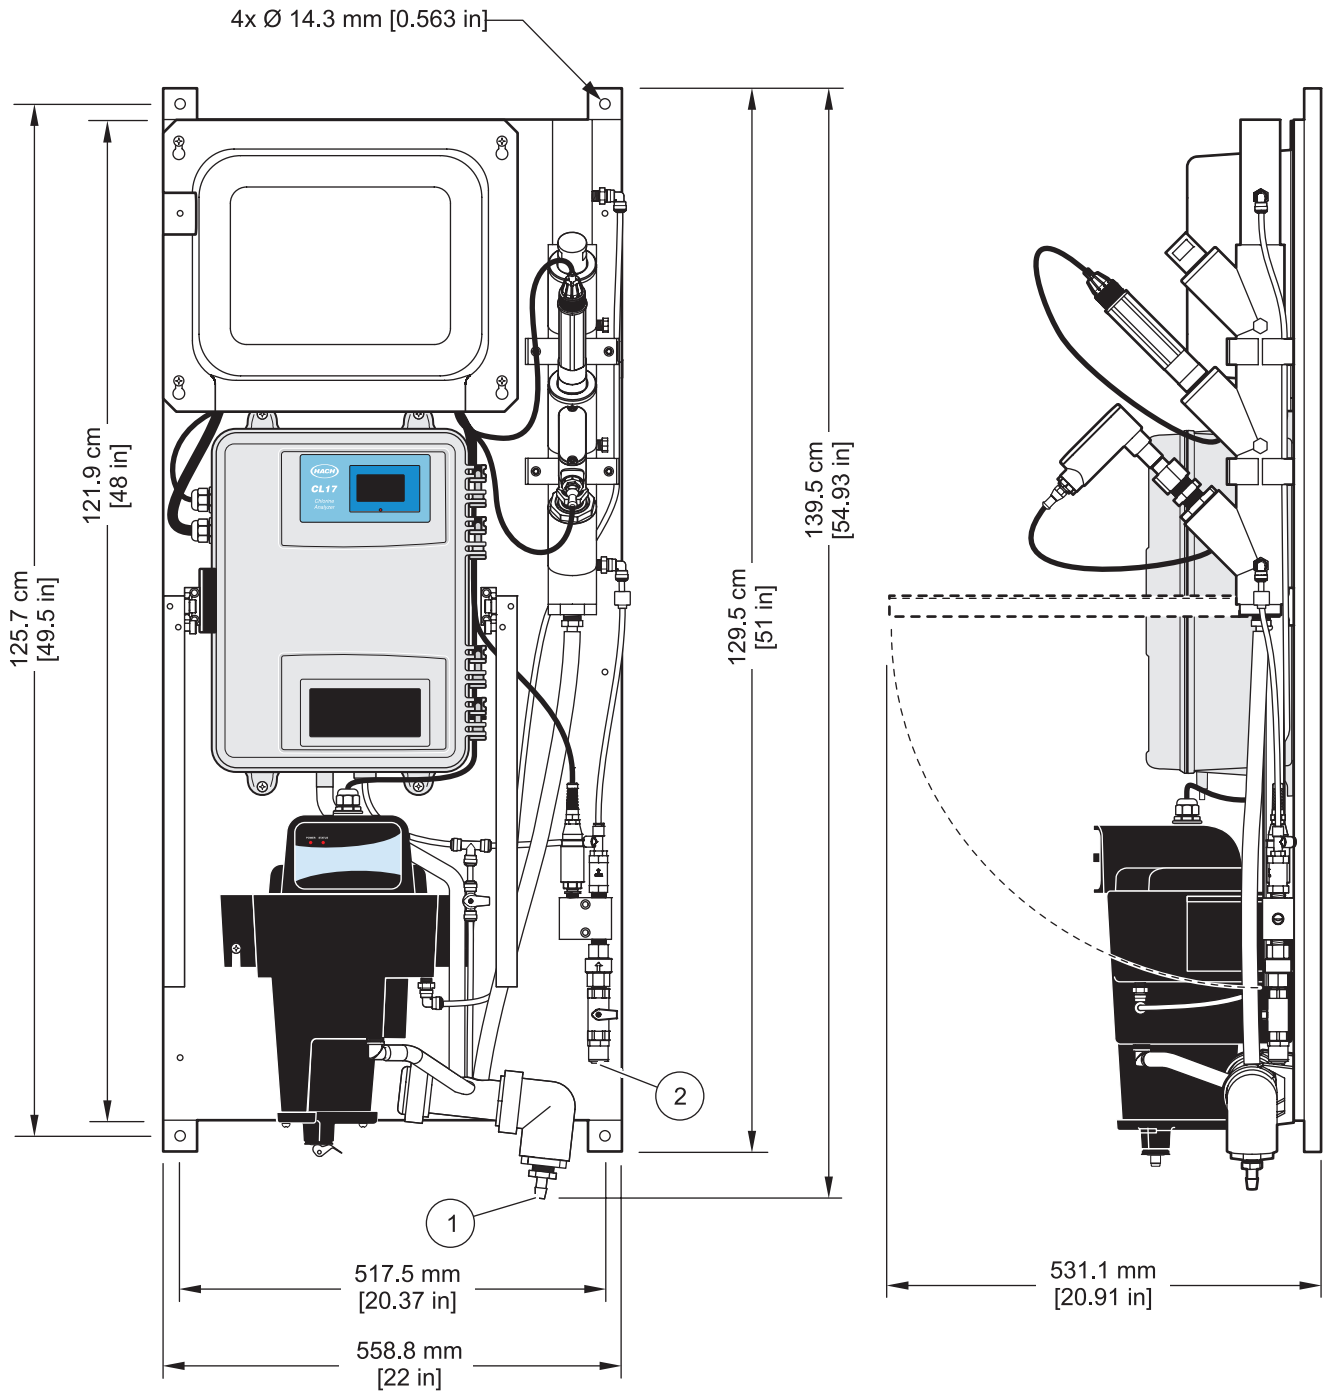

Figure 2 Installation dimensions
2. Obtain appropriate mounting hardware for the installation. Mark positions for four fasteners according to the dimensions presented in Figure 2 on page 14.
4. Attach a 3/4-inch ID (2-cm) drain hose, see Figure 2 on page 14.